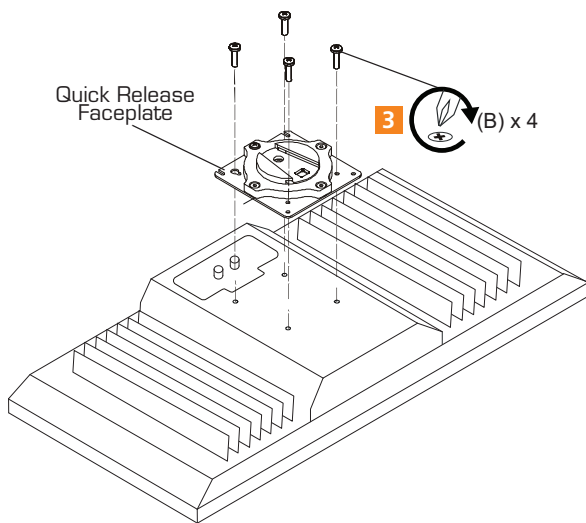

Figure 1-20 Attach faceplate to radiator
3. Connect faceplate to back cover. Using a Phillips screwdriver, carefully install four M4x14mm screws (B) through corresponding holes on faceplate and into the mounting holes on the radiator. (See Figure 1-20 )